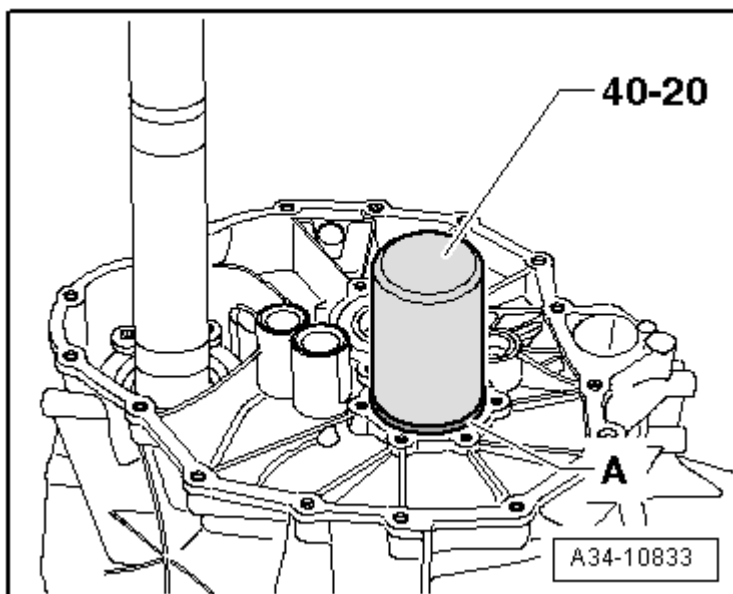

Fig. 78: Installing Input Shaft Ball Bearing -A- In transmission Housing
- Removing, refer to Fig. 78
- Installing, refer to Fig. 78